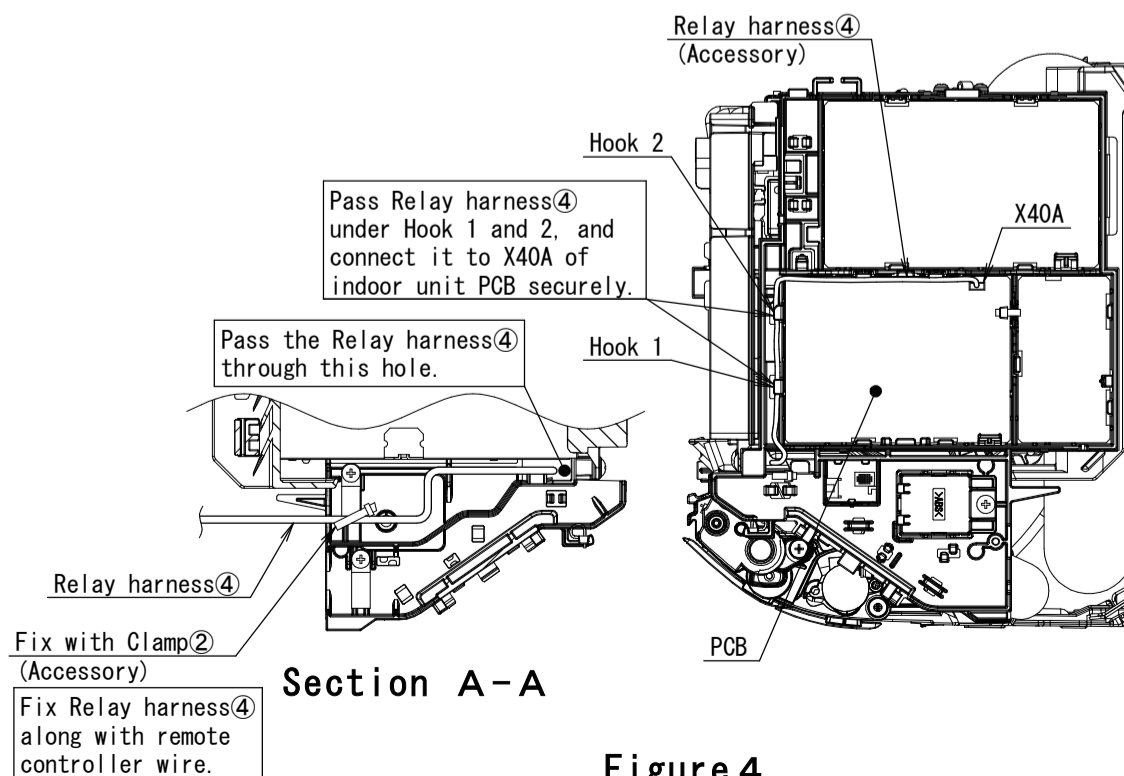

Figure 4
(3) Connect the Relay harness④ to X40A of the indoor unit PCB. (Figure 4)
(4) Fix the connected harness with the Clamp② along with the field remote controller wire.